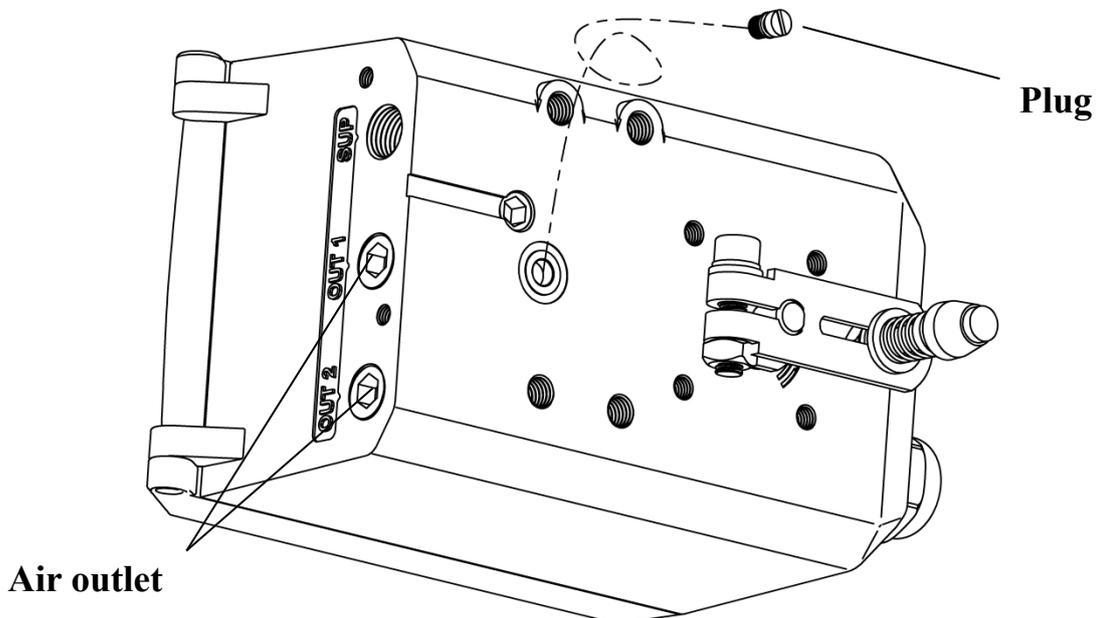

Figure 29. Schematic diagram of plug and air outlet
- Use a flathead screwdriver to remove the plug for no tubing connection on the back of the housing and block the air outlets OUT1 and OUT2 with a 1/4" plug. As shown in Figure 29.